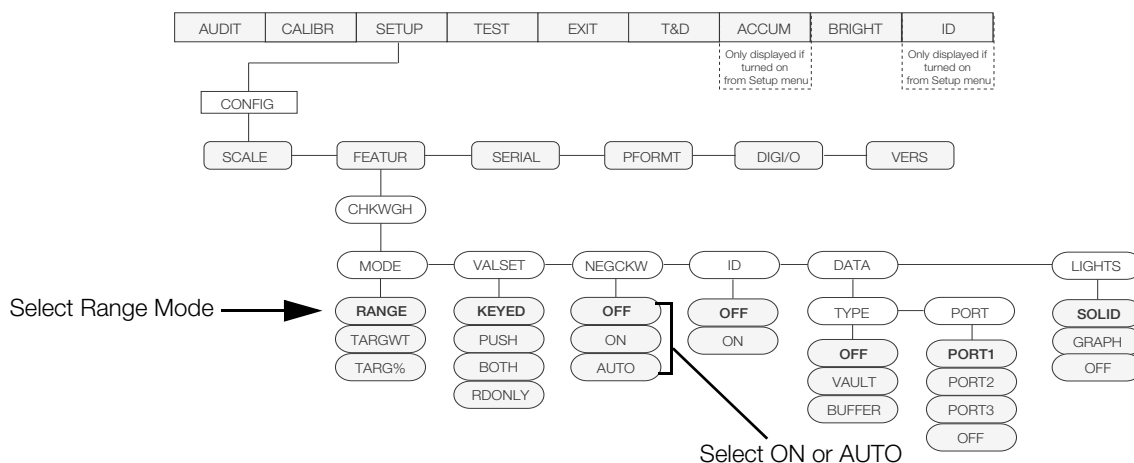

Figure 5-7. CHKWGH menu
1. Ensure Range is selected under *Mode* (See Figure 5-7).